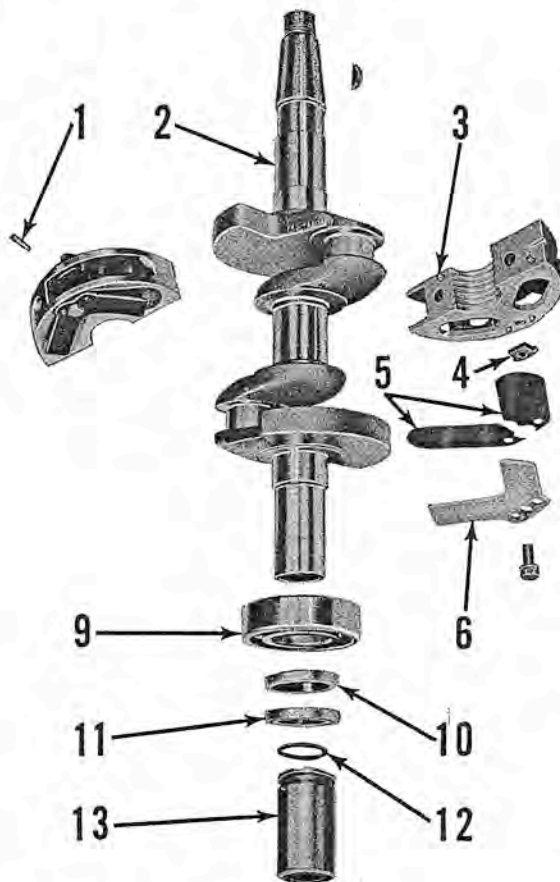

Fig. M60—Exploded view of crankshaft and associated parts.
Make sure that center main bearing dowel (1—Fig. M60) is in place and that main bearing (3) is properly located over dowel. Assemble and install the upper main bearing cap, using the shim pack (4—Fig. M59) which was used when power